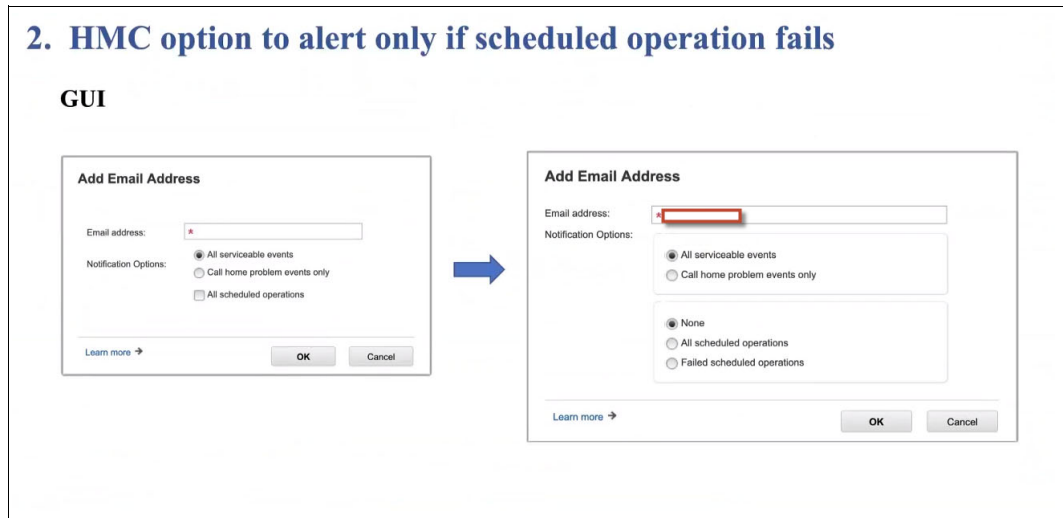

Figure 1-11 HMC alert feature
- ▶ Scheduled operation function: In the ESA, there is a new feature that allows customers to receive message alerts only if scheduled operations fail (see Figure 1-11).